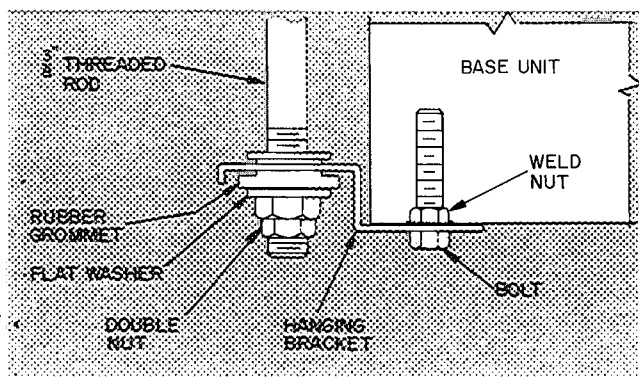

Fig. 1 — Suspension Kit Installation — 50HQ
- f. 50HQ units include a suspension package for ceiling installation. To attach hanging brackets, install 4 bolts (5/16 x 18-3/8 in. lg) through bracket into the 4 weld nuts located on bottom of unit. Insert the threaded rod through rubber grommet, located in hanging bracket, and attach with flat washer and double nut. See Fig. 1.